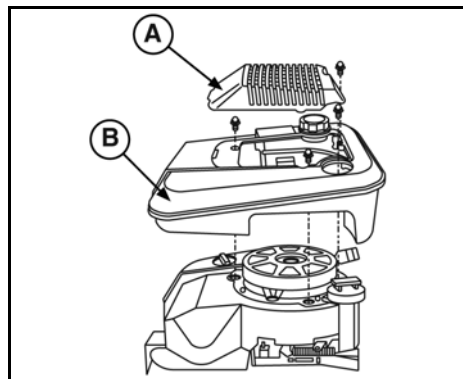

Figure 3
2. Remove the screws and the finger guard (A, Figure 3) and the fuel tank (B).